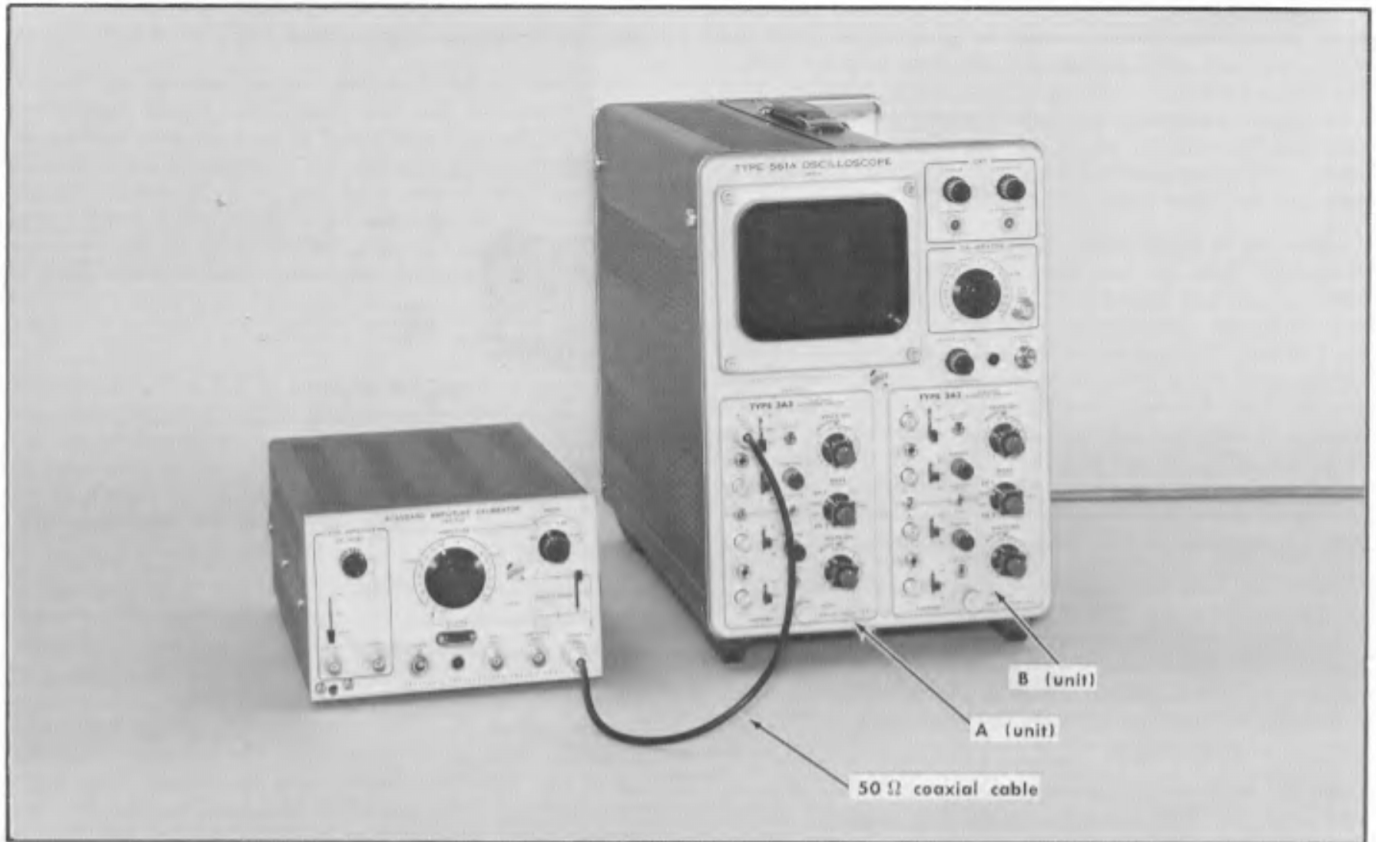

Fig. 2-13. Initial equipment setup for the amplitude adjustment procedure required when the Type 3A3 Plug-In Units are used for precise phase measurements.
a. The equipment required for the adjustment steps, b through f, include a Tektronix Standard Amplitude Calibrator (Tektronix Part No. 067-0502-00), a 50 ohm coaxial cable with BNC connectors (Tektronix Part No. 612-0057-00) and a Dual Input Coupler (Tektronix Part No. 067-0525-00) in addition to the two Type 3A3 Plug-In Units and the Type 561A Oscilloscope. Fig. 2-13 shows the above equipment setup for step e.